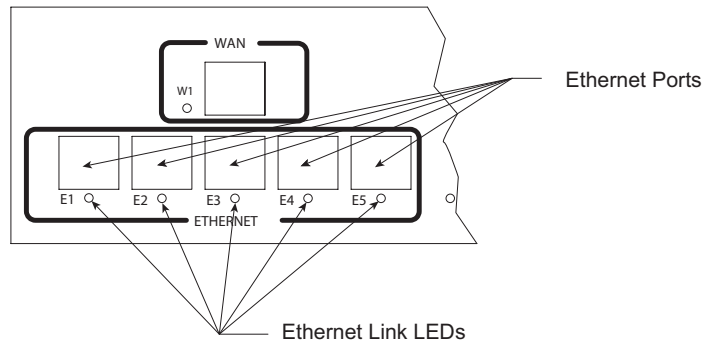

Figure 3-4. Ethernet Ports
The Ethernet ports are standard RJ48 ports. Connect the standard Ethernet cables to the Ethernet ports as follows. (Refer to **Figure 3-4 on page 3-8**.)
3. Ensure that the Link LED is illuminated for the port. See Figure 3-4 for location of the Link LED. If the Link LED is not on verify that the equipment on the other end of the cable is powered up.
The **DYNASTAR 1500s** with optional SFPs contain fiber optic connections in Ethernet ports 1 and 2. The port accepts an LC type connector that slides on until the connector clicks into the port. Follow the safety precautions and steps to install the fiber optic cables to these ports and refer to **Figure 3-4** for Ethernet port locations.